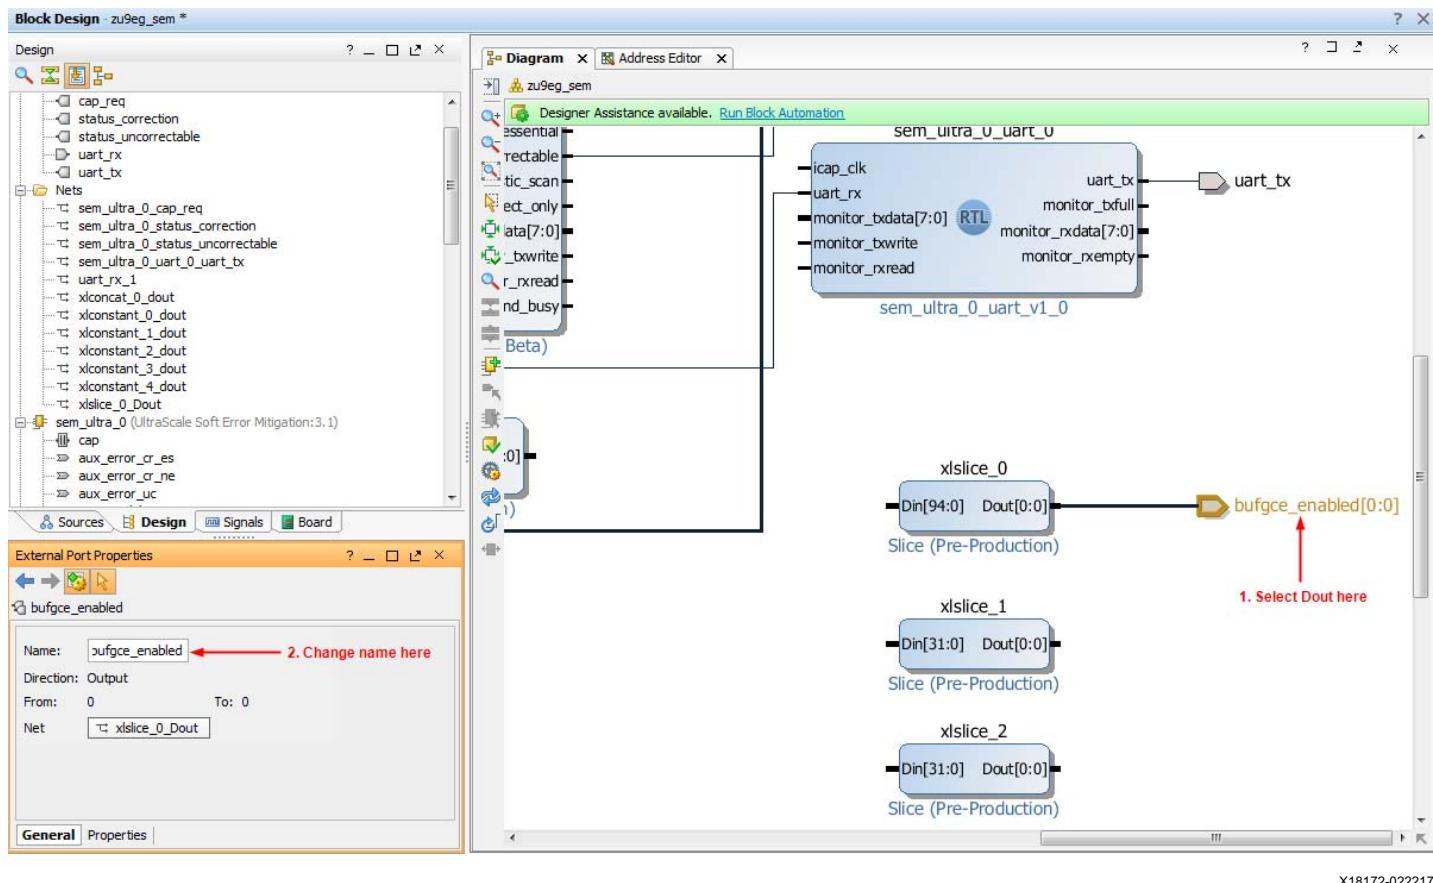

Figure 21: Design 2 - Configure External Port - bufgce_enabled
- Change the name of Dout. Select the **Dout** port in the Diagram tab. In the External Port Properties General Tab, change Dout to **bufgce_enabled**. See Figure 21.